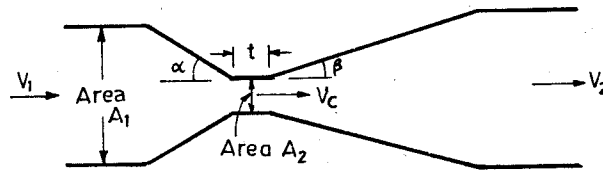

Fig. 16
39. Fig. 16 shows a venturimeter used for measurement of flow. Its coefficient of discharge is a function of